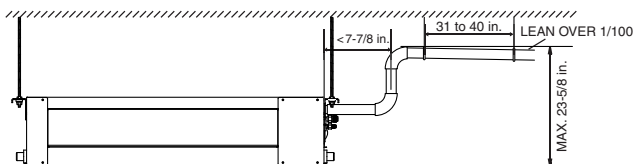

Fig. 9 — Condensate Piping
- The highest point in the condensate piping should be as close to the unit as possible. See Fig. 9.